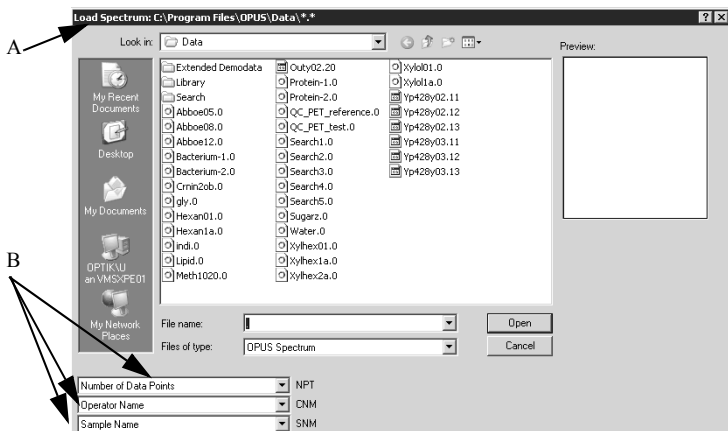

Figure 29: Load Spectrum - No file selected
- B) Three parameters of a spectrum file are shown by default. You can select the specific parameters from the drop-down lists. As no file has been selected yet in figure 29, only the parameter abbreviations are shown.